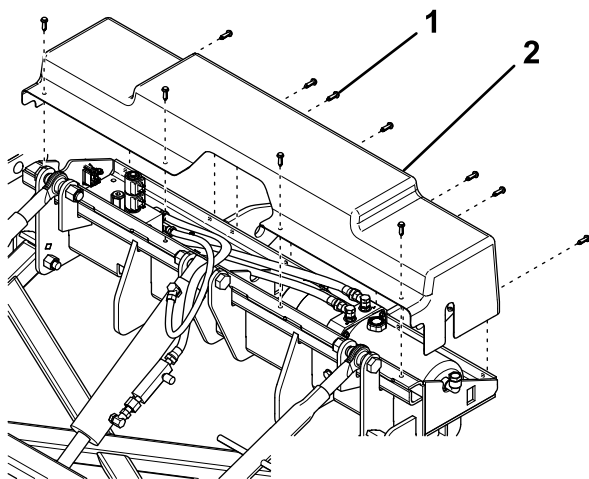

Figure 11
- Attach the coupler assembly cover using 11 push rivets (Figure 11).